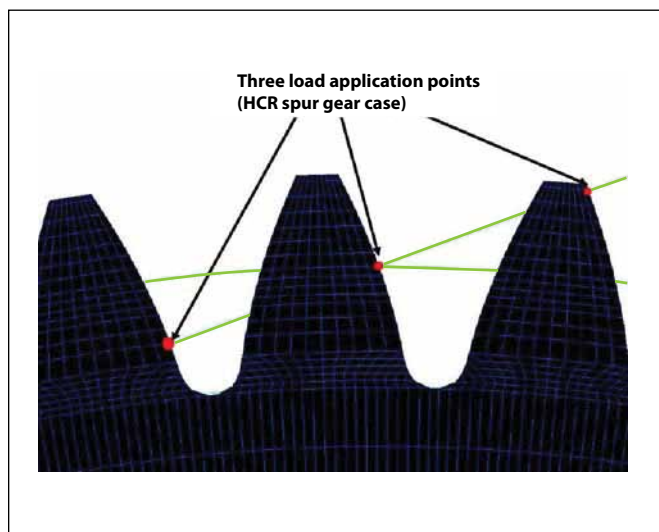

Figure 9—Influence of the gear mesh force application.
- The second model accounts for the actual load application points on the different teeth in contact. In this case (Fig. 9), the contact is assumed to be distributed on three teeth (HCR gears).